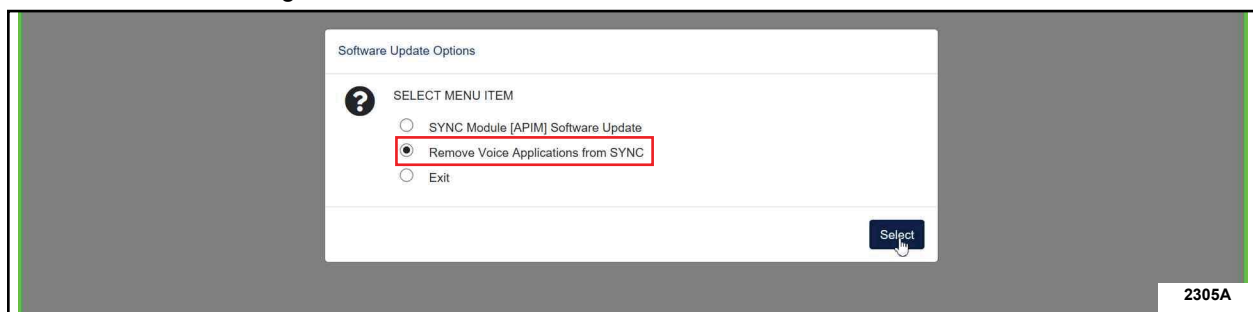

FIGURE 1
17. When prompted for Software Update Option, click "**Remove Voice Application from SYNC**", then click **Select**. See Figure 1.